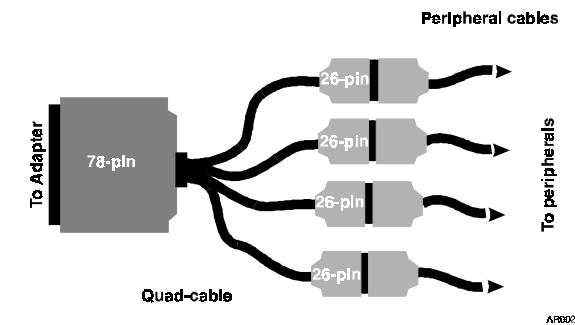

Figure 2: Four-port Interface Cabling Scheme
- Connect cables. (See Figure 2.)